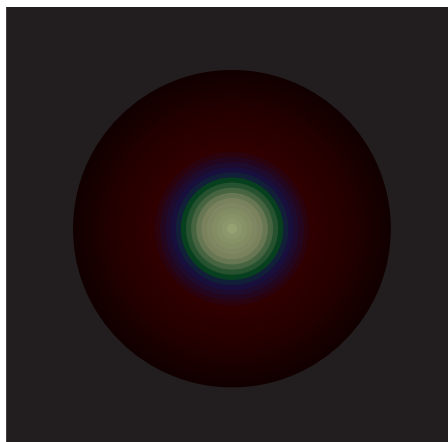

Figure 12. Typical color profile of white light generated in Sapphire.
- e. Place the card on front of PM1 and observe the white light (WL), generated in the Sapp crystal. The WL spot should be round and visibly stable in time. When observed in dark, the white light color typical profile should look approximately like the one shown on fig. 12. The center part is white, with yellowish-greenish hue, surrounded with narrow and greenish-blue halo. When pumped with enough energy, a dark and wide red-colored halo should be slightly visible outside the main spot.